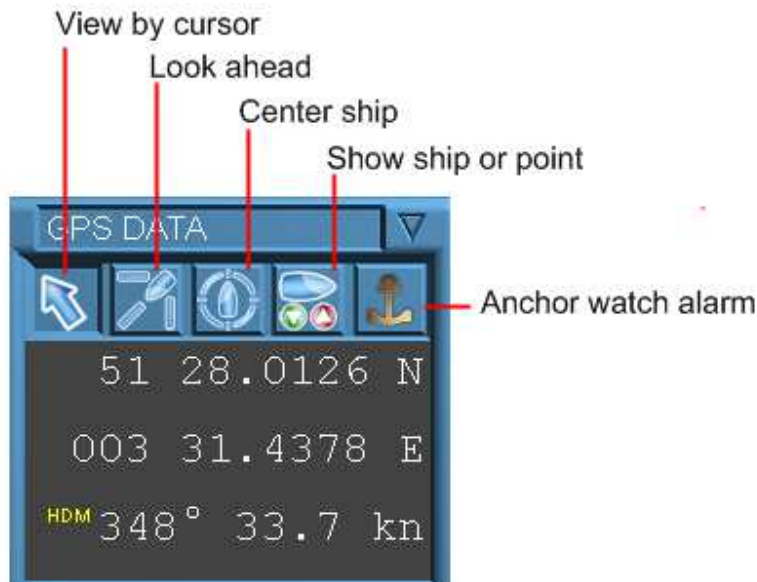
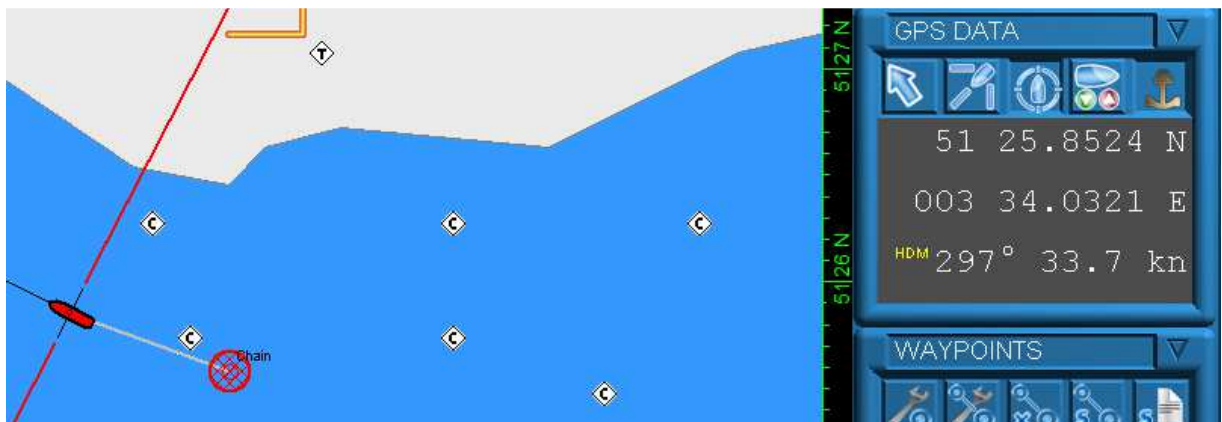

Figure 8-6: Toolbar GPS (typical)
Figure 8-8: Anchor watch alarm
With the “View by cursor” button (see Figure 8-6), the chart can be moved freely in every direction. The cursor has the following functions:
The “Look ahead” button (see Figure 8-6) when enabled shows what is ahead of the vessel. The vessel shown on the chart can be positioned in eight (8) directions. This allows you to anticipate on unforeseen situations.
The “Center ship” button (see Figure 8-6) is used to centre the ship's position.
The “Show ship or point” button (see Figure 8-6) is used to set a number of preferences. The following settings are possible:
This facility (see Figure 8-6) attempts to offer automatic warning of the observing vessel. If a known stationary target (chain mark) is acquired and designated as such then an "Anchor alarm" (see Figure 8-8) will be activated if the designated target moves more than a preset distance from the marked position. If the stationary target appears to move, then it must be due to the observing vessel dragging her anchor.